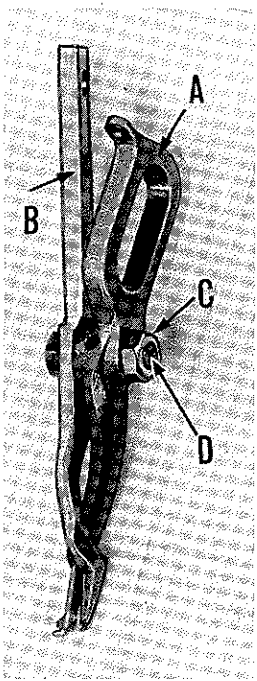

Fig. 18
If it is found that the looper (B, Fig. 18) and spreader (A) are skipping stitches, an adjustment can be made by loosening lock nut (C) and turning the eccentric adjusting stud (D) in the required direction. If further adjustment is required, repeat looper and spreader adjustment in previous instruction.